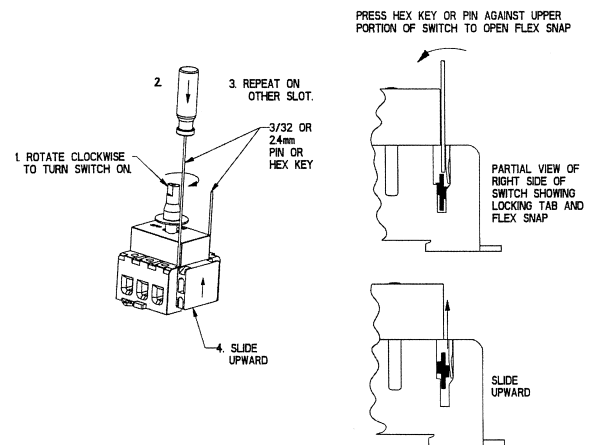

FIGURE 3
D. Removing the Auxiliary Contact (SEE FIGURE 3)